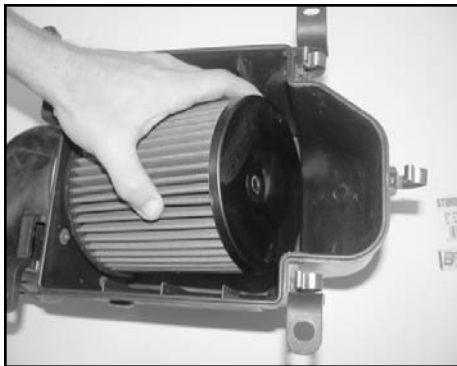

Fig. 1
3. Install the K&N Filtercharger® into the air box. (Fig. 1)